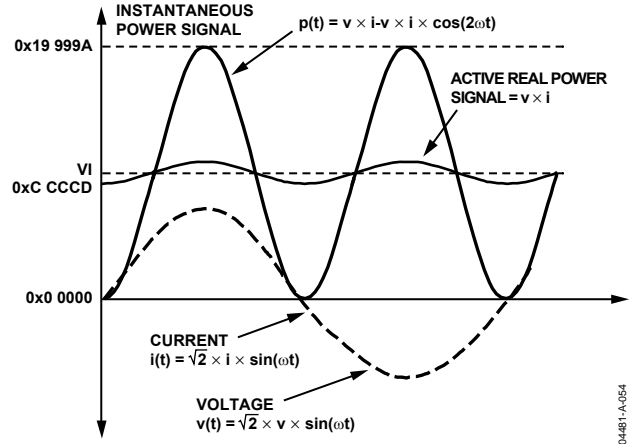

Figure 53. Active Power Calculation
Note that the active power is equal to the dc component of the instantaneous power signal $p(t)$ in Equation 8, i.e., VI . This is the relationship used to calculate active power in the ADE7763. The instantaneous power signal $p(t)$ is generated by multiplying the current and voltage signals. The dc component of the instantaneous power signal is then extracted by LPF2 (low-pass filter) to obtain the active power information. This process is illustrated in Figure 53.
As mentioned in the last section, the discrete time sample period (T) for the accumulation register is $1.1 \mu\text{s}$ ($4/\text{CLKIN}$). With full-scale sinusoidal signals on the analog inputs and the WGAIN register set to $0\text{x}000$, the average word value from each LPF2 is $0\text{x}C\text{CCCC}$ —see Figure 53. The maximum positive value that can be stored in the internal 49-bit register before it overflows is 2^{48} , or $0\text{x}\text{FFFF}\text{FFFF}\text{FFFF}$. The integration time under these conditions with $\text{WDIV} = 0$ is calculated as follows: